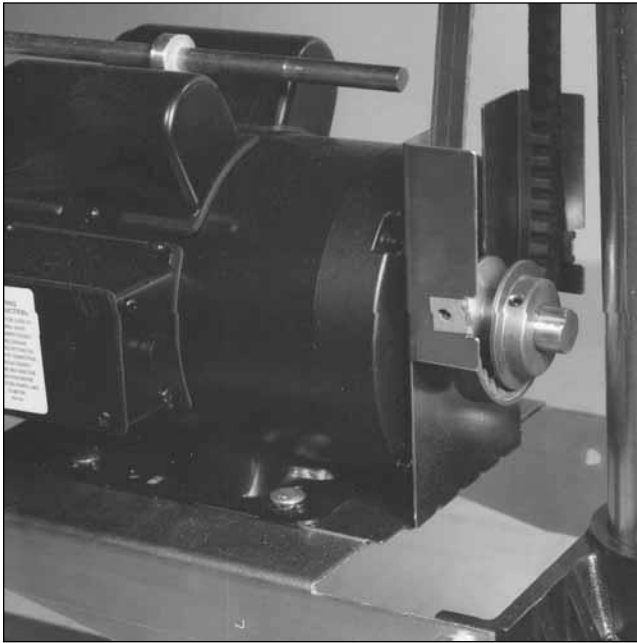

Fig. 23. Removing lower guard and transfer rod.
5. Remove V-belt from drive pulley. If there is not enough clearance to remove V-belt loosen the four bolts securing the main motor to bracket. Note location of motor before sliding motor out of the way for ease of reassembly. Note the routing of the old V-belt: now remove the old V-belt and replace it with the new V-belt (Fig. 23 and 24).